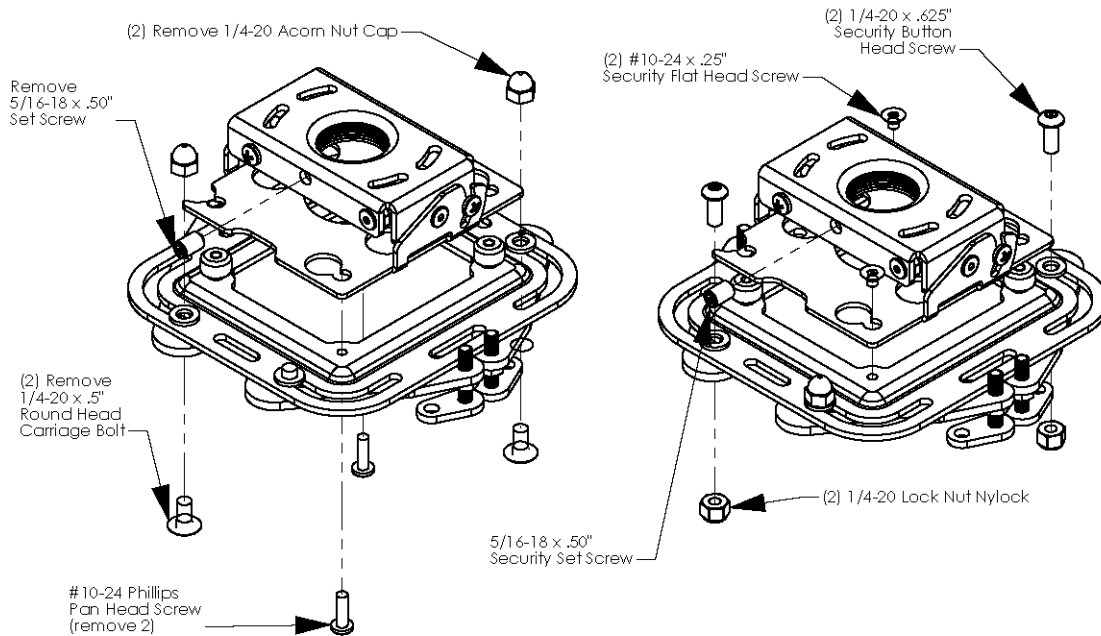

Figure 8. Adding Optional Security
1. Using security wrench (provided), remove 5/16" standard set-screw and replace using 5/16" security screw (see Figure 8).
5. Remove two 1/4-20 x .5" round head carriage bolts and 1/4-20 acorn nut caps and replace using two security screws and lock nut Nylocks (see Figure 8).